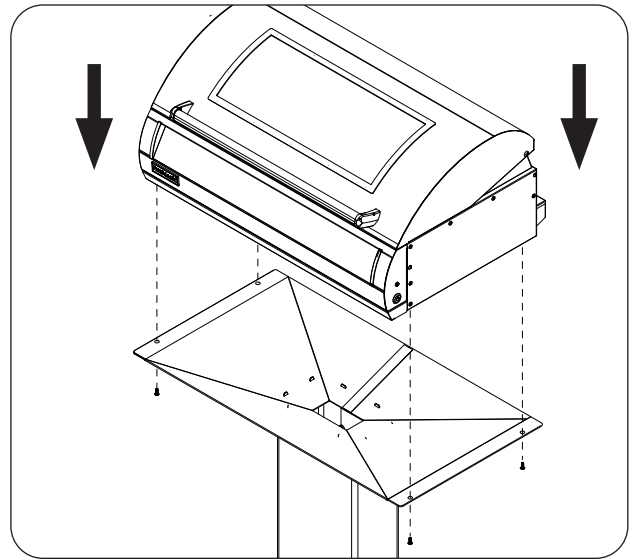

Fig. 30-1 Fasten grill to post base assembly
2. Carefully place and align the electric grill onto the top of the post assembly. Fasten the electric grill to the post base assembly using the 4 included Phillips-head screws. See Fig. 30-1.